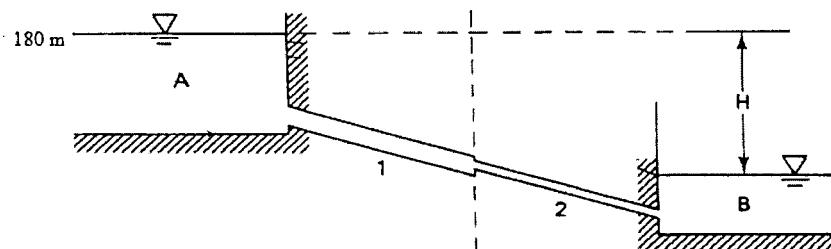

Figure 4 (b) / Rajah 4 (b)
- b) Figure 4(b) depicts two different pipes which are connected in series with the given diameter of pipe 1 = 0.6 m, while the diameter of pipe 2 is 2 times smaller than pipe 1. The length of both pipes are 200 m and 150 m respectively. The level of water for tank A is 180 m and the rate of water flows in pipeline to tank B is  $0.5 \text{ m}^3/\text{s}$ . Consider that the entrance and exit of the pipe are sharp and both pipes have different roughness surfaces of  $f_1 = 0.017$  and  $f_2 = 0.018$ . List all the head losses with the formula that can possibly occur in the system then, write down the energy equation of the system.
- CLO1      c) Based on figure 4(b), determine the level of water for Tank B, if the coefficient of contraction,  $C_c$  is given as 0.27.
- CLO1      C4      d) Consider a similar system as in Figure 4(b) with no head losses occurred except for the situation of changes in pipe diameter for pipe 1 and 2 and the velocity of pipe 1 is 4 times of pipe 2. The Diameter of pipe 1 is 240 mm and for pipe 2 is 480 mm. Calculate the velocity in pipe 2.